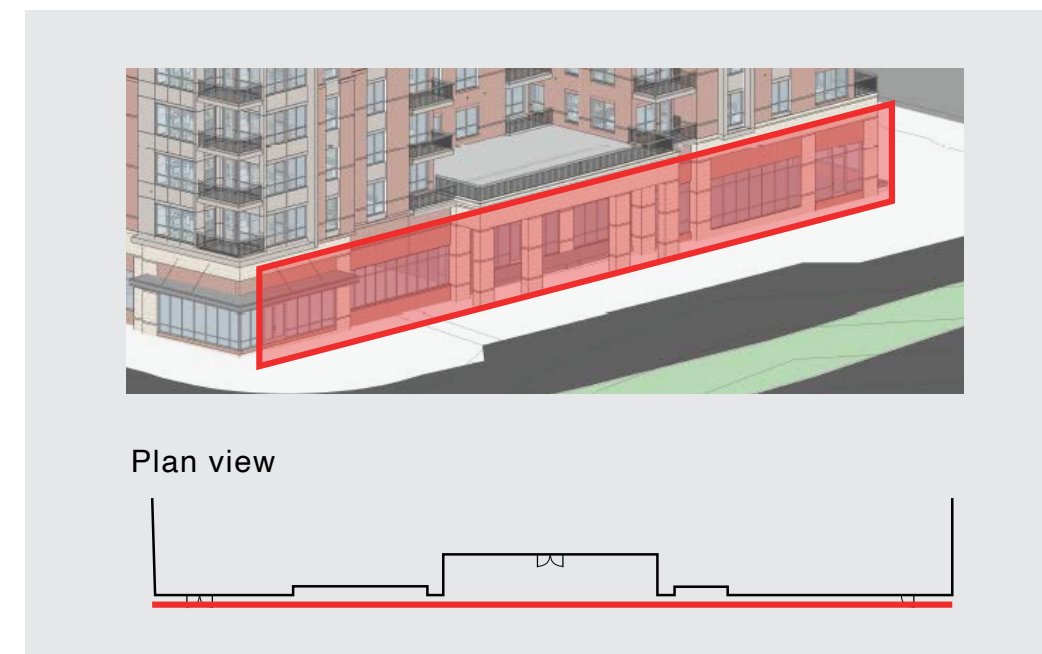

Fig. 2 Length of Irregular Wall Surface
- In the case of an irregular wall surface, a straight line extending along such wall surface shall be used to measure the length (see Fig. 2).